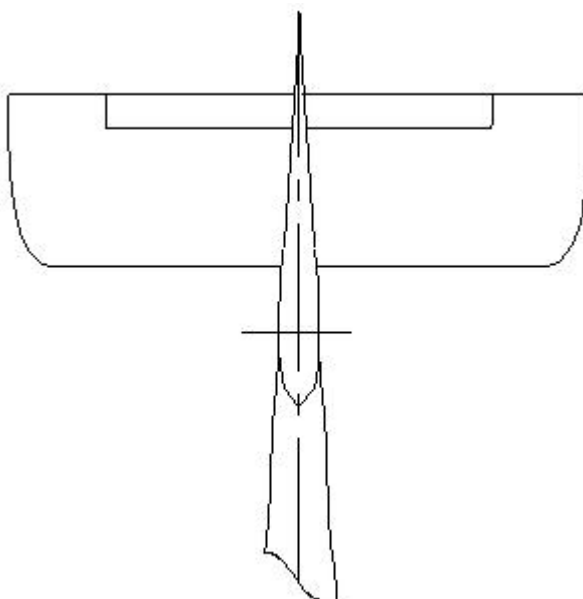

Fig. 6
- 4) Check neutral position of the rudder (the rudder axle must coincide with the plane axle, Fig. 6). Repeat item 3 if necessary.